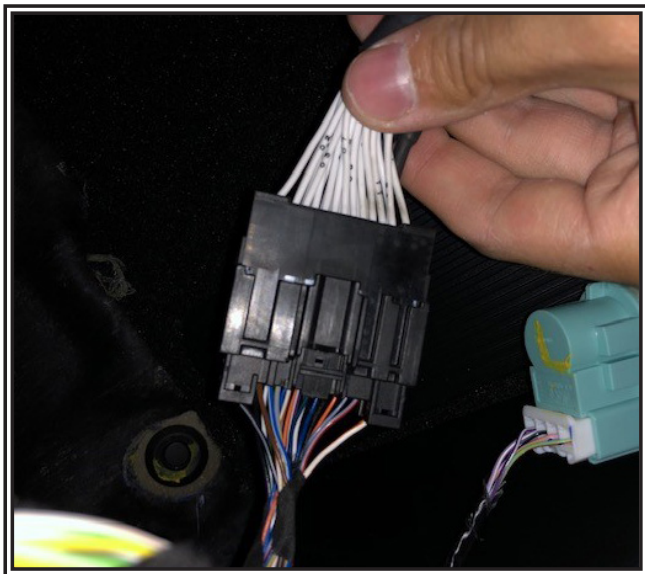

Figure 12
Step 5. Connect to the provided harness shown in FIGURE 12.